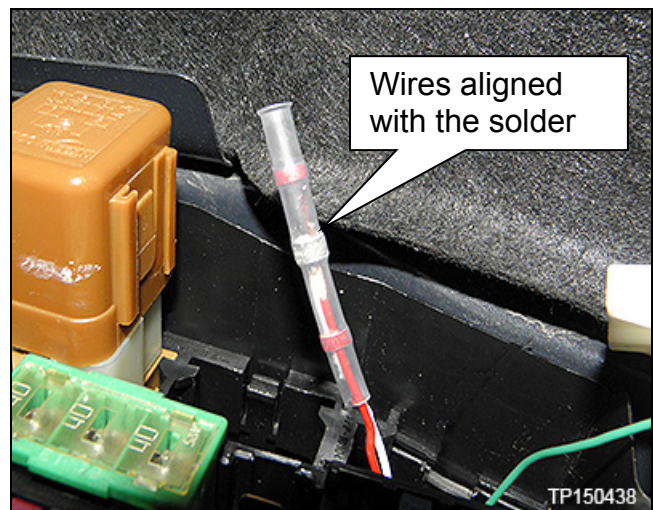

Figure 8
- Slide a solder sleeve connector (#J-47003-2) over the twisted pair (Figure 8).